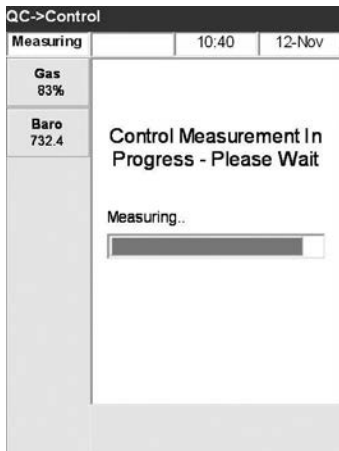

Fig. 4-25 QC Measurement
15. Press . The QC sample is aspirated into the cassette and the measurement starts (Fig. 4-25). At this time the status light begins flashing green indicating that the cover should not be opened.